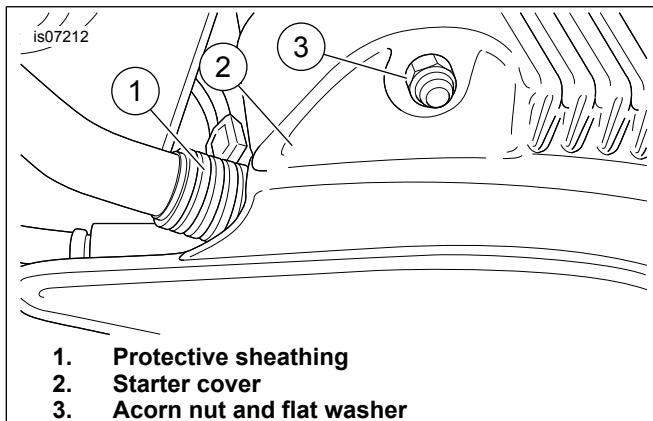

Figure 8. Starter Cover
11. See Figure 8. Place the starter cover (2) over the starter bracket and the top stud of the starter. Make sure the protective sheathing (1) is positioned to protect the top oil line from the rear edge of the cover. Using the included acorn nuts and washers on the stud and the socket head cap screw, attach the cover. Tighten securely.